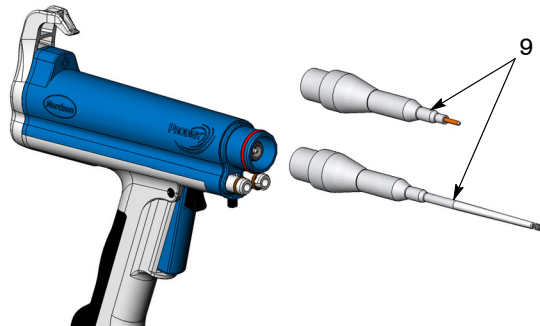

Figure 4 Removing the Resistor Holder
4. See Figure 4. Unscrew the resistor holder (9) (short or long, depending on gun model) and resistor from the multiplier.